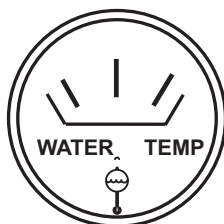

Figure 53. Coolant Temperature Gauge
16. The **coolant temperature gauge** (Figure 53) will indicate the coolant temperature. Under normal operating conditions the coolant temperature should be between 165 and 215 degrees Fahrenheit (**Green Zone**).